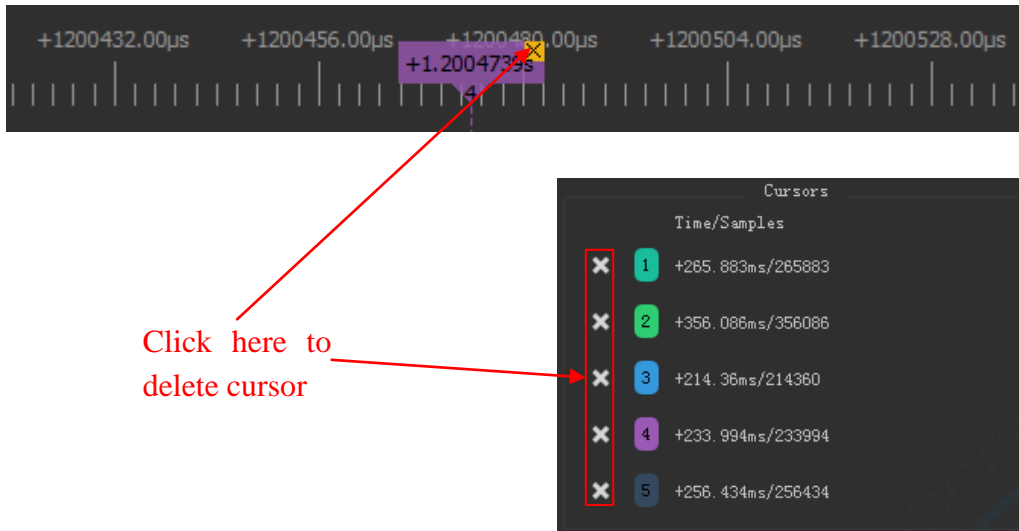

Figure 3-23
**Cursor Delete:** As Figure 3-23 shows, click the '×' area of any cursor will delete the cursor, and remain cursors will be renumbered.